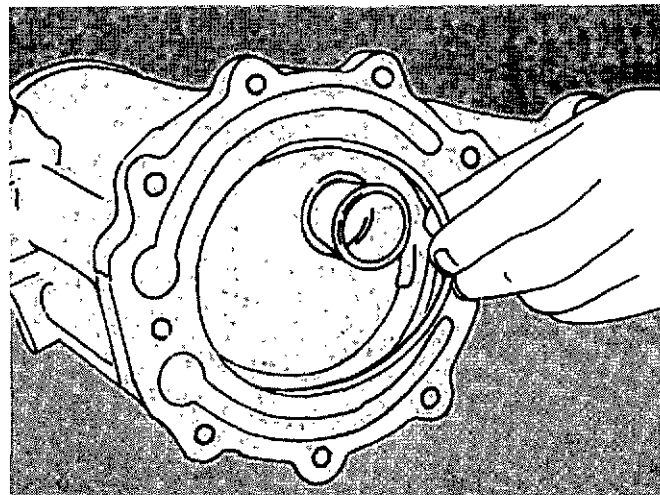

Fig. 7-29. Remove The O-Ring From The Thermostat End Of The Housing.
4. To remove the O-ring from the thermostat end of the housing, push the element approximately 0.50 inch [12.4 mm] toward the filter end of the housing. Remove and discard the O-ring, Fig. 7-29.